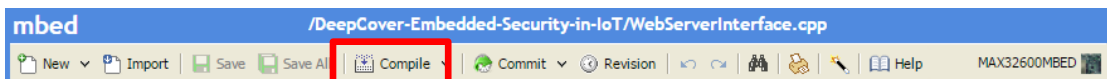

Figure 4. Compiling the firmware.
- You will be prompted to download "MAXREFDES155.bin," which is the compiled binary firmware. **Compile** the firmware (**Figure 4**).